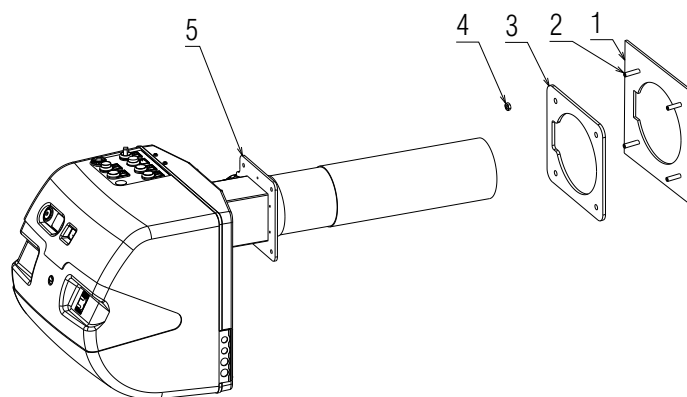

Fig. 14
- Fix the cover 1)(Fig. 14) delivered as equipment with the screw 2).
- Remove the transformer assembly 3) and fix the cable grommets 4) and 5) (see Fig. 14 at page 20) inside the burner.
- Fix the train assembly 6)(Fig. 14) using the 4 screws 7) provided.